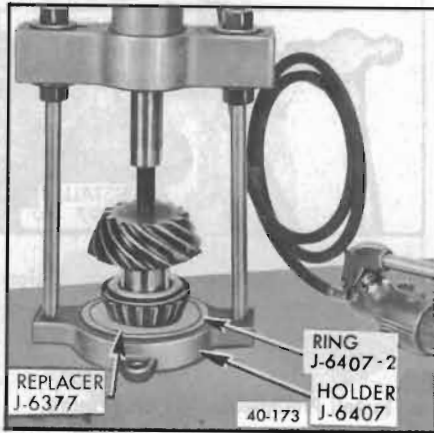

Figure 40-162—Installing Rear Pinion Bearing
3. Place correct shim (as determined in subpar. b) against head of pinion and install rear pinion bearing using Replacer J-6377 and Holder J-6407 with Ring J-6407-2 in a press or as shown in Figure 40-162.